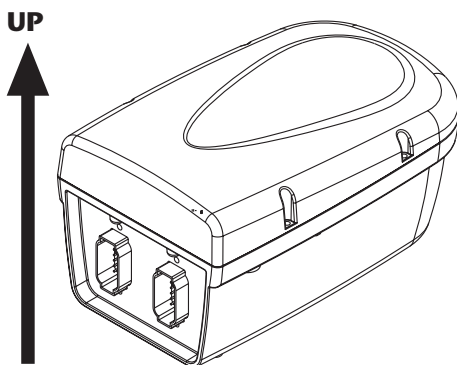

Figure 3-6: Correct Mounting Position for Internal Antenna
1. Mount the radio unit in the selected location per your site planning. If using the internal antenna, be sure to mount the unit in the position shown in Figure 3-6 below, with the omni-directional radiation pattern along the horizontal plane.